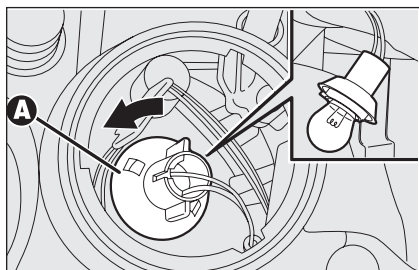

fig. 25
- turn the bulb holder **A-fig. 25** counterclockwise, remove the bulb and replace it;